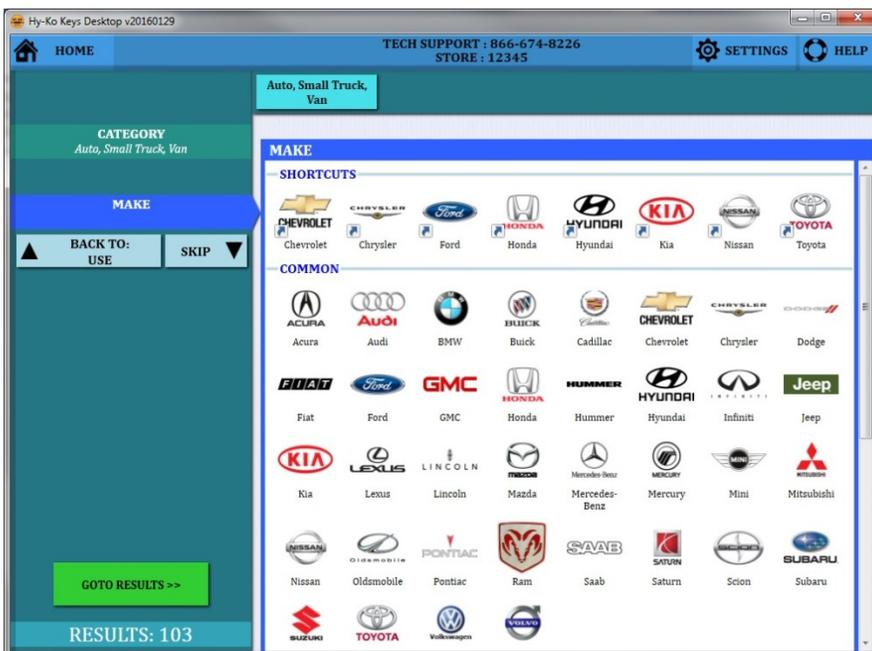

fig. 80
- Choose the Make by clicking on the appropriate manufacturer logo or by typing it in the 'MAKE' box on the left (see fig. 80).